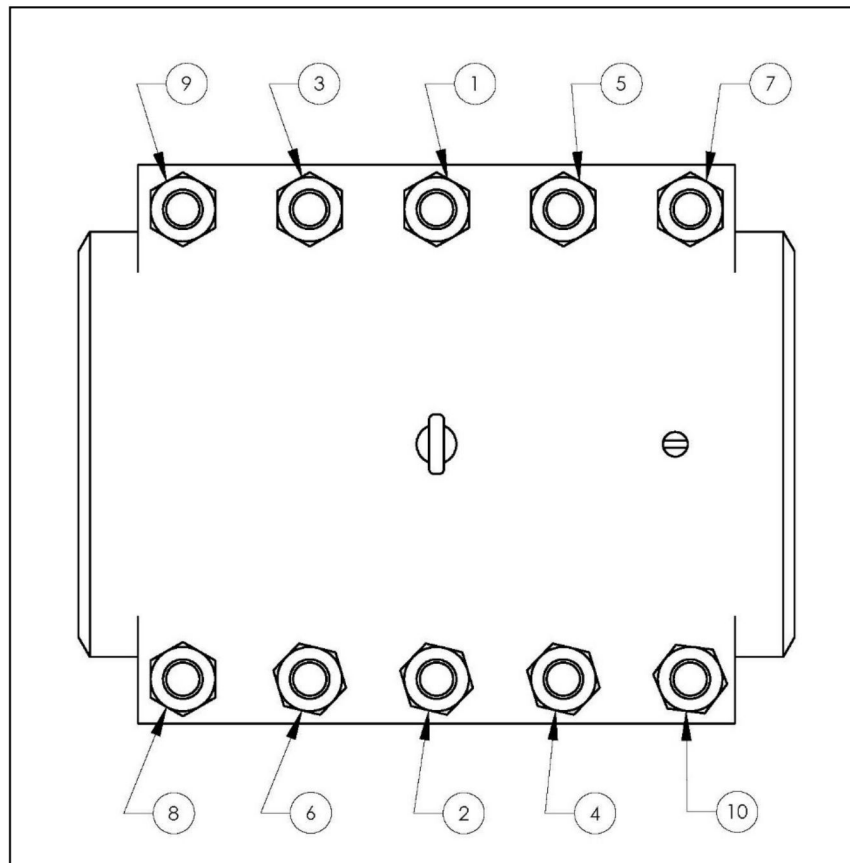

Figure 9
6. Torque the studs uniformly as indicated by the corresponding value per stud size from the **PLIDCO Torque Chart** located on page 14 of these instructions. The best results are obtained by maintaining an equal gap all around the side bars while tightening the studs. Ensure there is full thread engagement by having a minimum of 1/4 inch (6.4 mm) of stud extending beyond the nut. The sequence for torquing the studs should follow the pattern as shown in Figure 9, and should be executed repeatedly as follows: